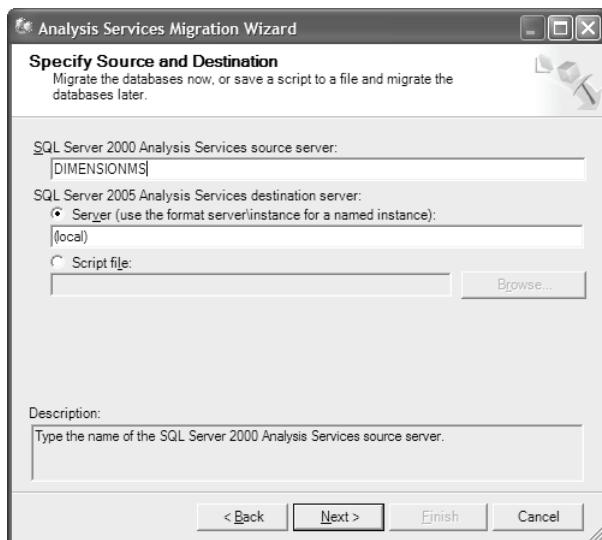

Figure B.5 The Migration Wizard allows you to migrate an existing SSAS 2005 database straight to UDM or generate an XMLA script for later execution.
2. In the Specify Sources and Destination step (Figure B.5), enter the name of the SSAS 2000 server as a source server. You can use the Migration Wizard to move an SSAS 2000 database straight to UDM or generate an XMLA script. You can run the script at a later time from Management Studio or schedule it to run in an unattended mode. Leave the default option (*Server*) selected and click Next.